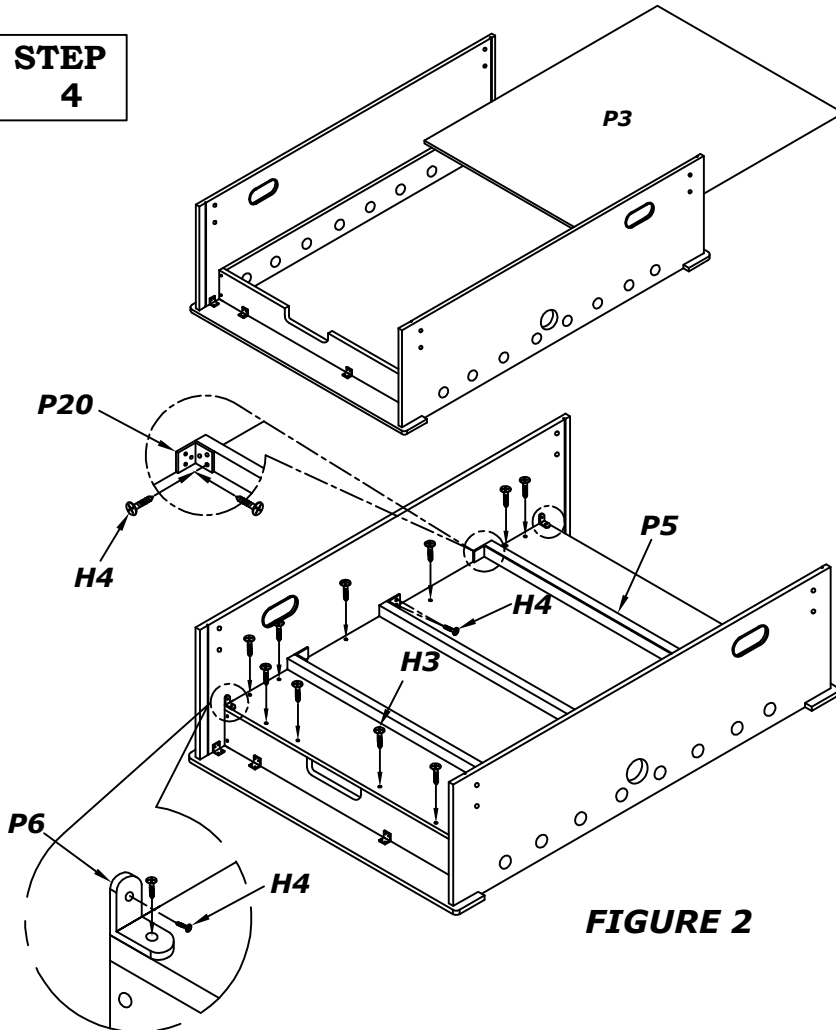

FIGURE 2
- 4 SET THE PLAYFIELD **P3** ONTO THE ASSEMBLY AND ATTACH WITH SCREWS **H3** AS SHOWN IN **FIGURE 2**.
PLACE THE PLAYFIELD SUPORT BRACES ON THE BOTTOM OF THE PLAYFIELD. ATTATCH THE BRACES USING BRACKETS **P20** AND SCREWS **H4**. AS SHOWN IN **FIGURE 2**.
ATTACH THE BRACKET **P6** TO THE SIDE PANELS AND THE PLAYFIELD WITH SCREWS **H4** AS SHOWN IN **figure 2**.